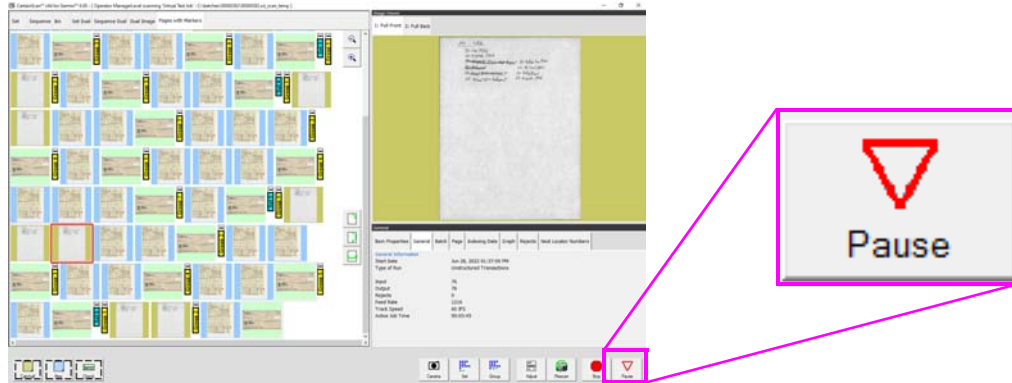

Figure 4-28: Select Pause
1. Click **Pause** on the run screen (Figure 4-28), the Rescan Feeder slot will start flashing blue, press the **Rescan Feeder** button and the slot will become lit a solid blue.